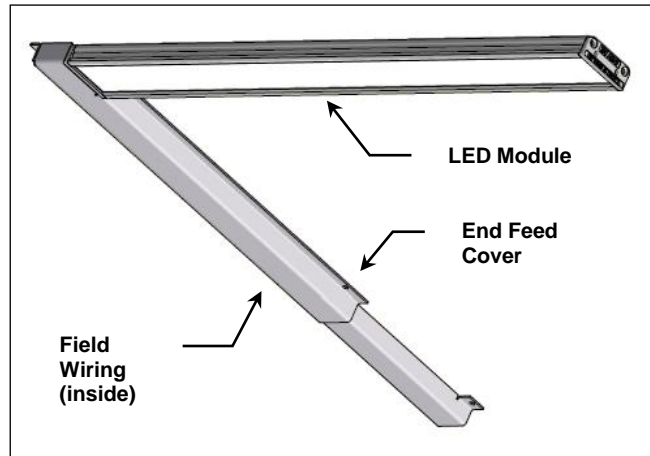

Figure 5. End Feed and Module Installed.
10. For under cabinet applications where feed originates at the back wall install provided End Feed Cover as shown on Figure 5 to protect the wire connection, extend the telescoping insert to cover all the wiring up to the nearest wall, and secure the cover with provided #4 screws. Discard the telescoping insert, if the required cover length is 8 in. (*Note: If both left and right End Feed Covers are provided, use the one suitable for the application and discard the other one.*)